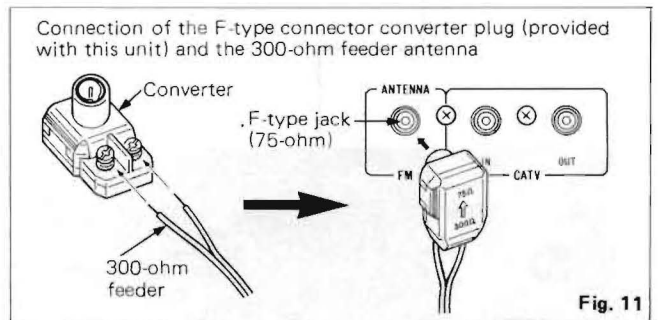

Fig. 11
- The feeder antenna must be attached to the converter plug first and then connect to the F-type connector on the rear panel. (Fig. 11)